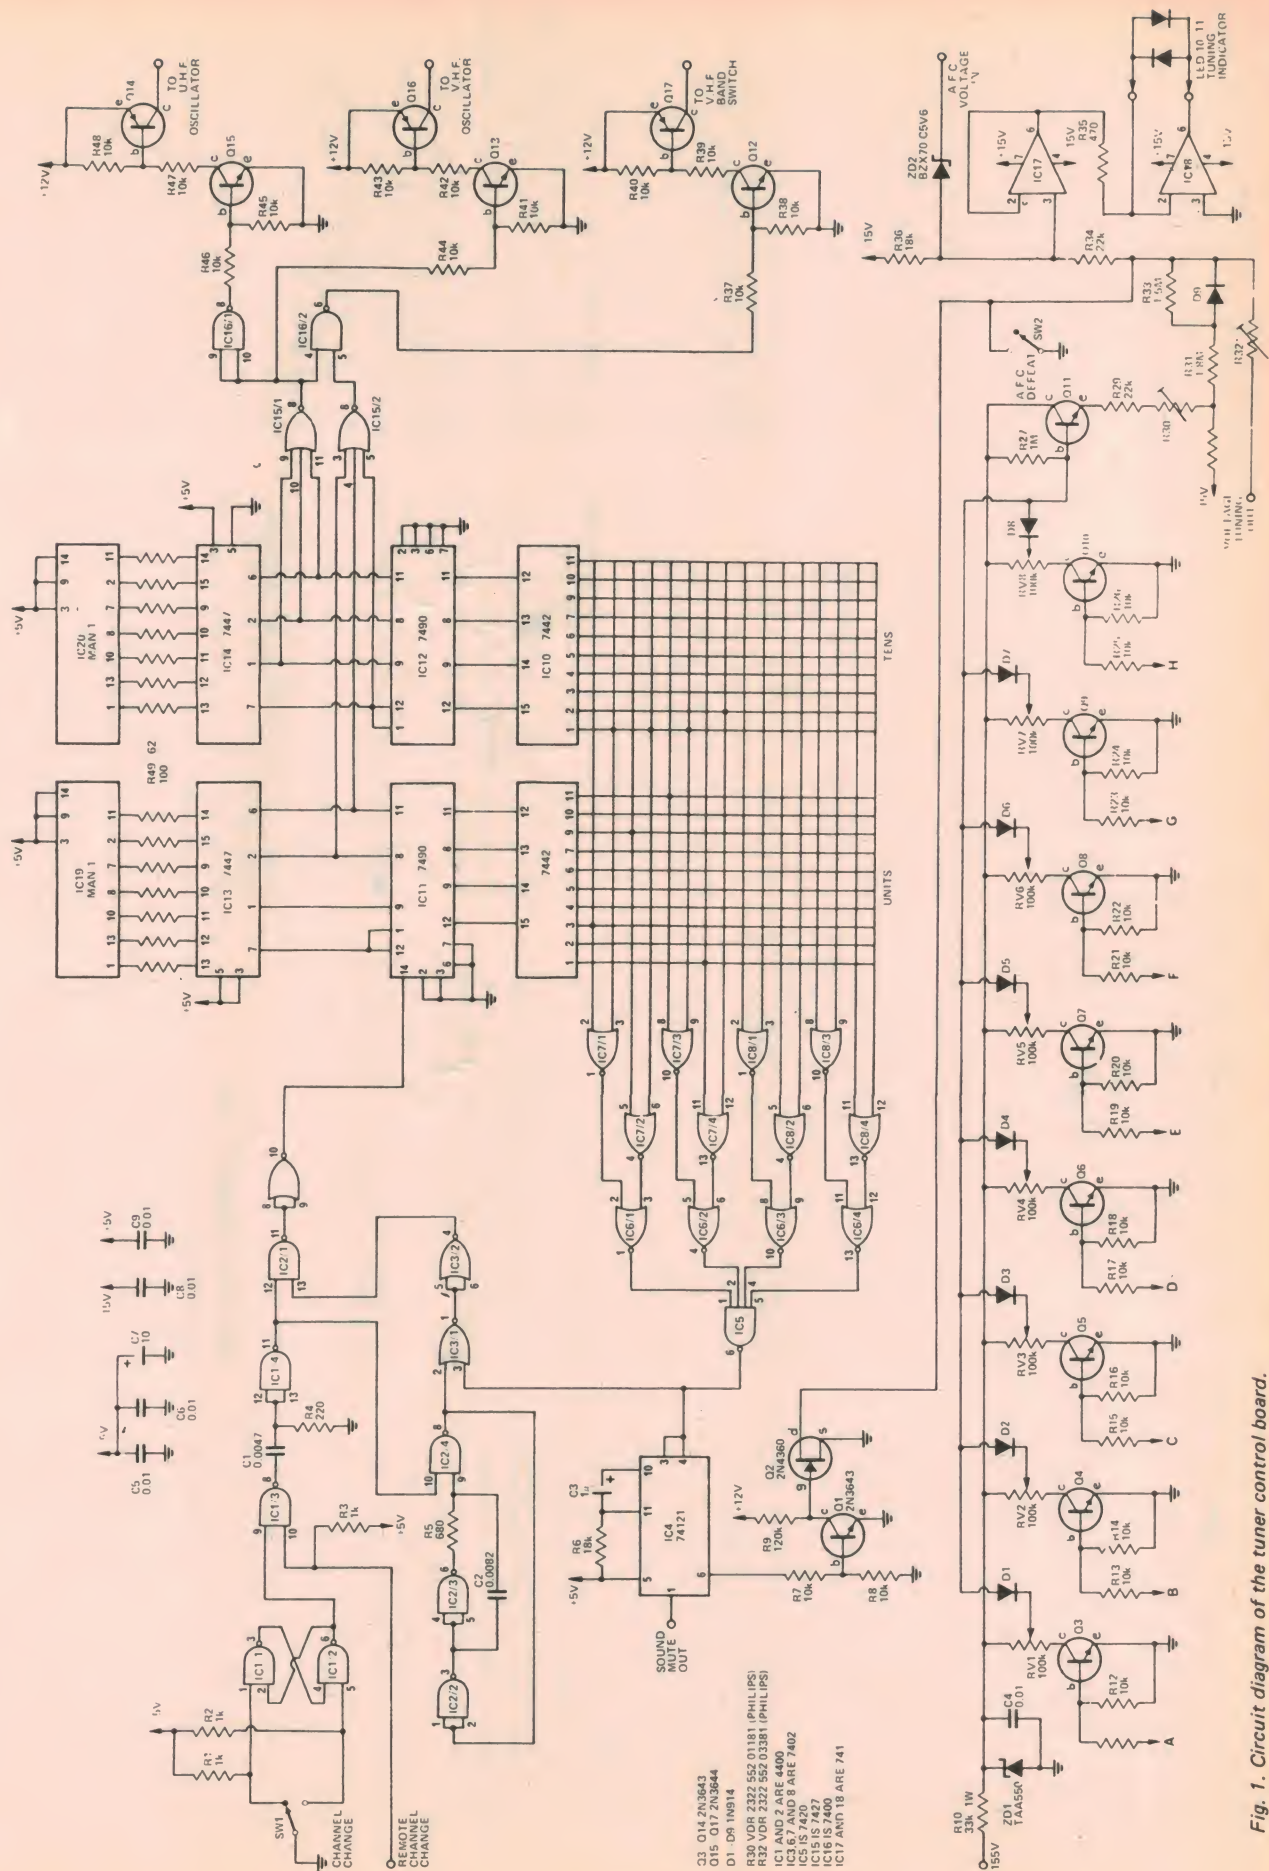

Fig. 1. Circuit diagram of the tuner control board.
**Tuner Control:** The heart of this circuit (Fig. 1) is the two decade channel counter IC11, 12, the output states of which are decoded by IC13, 14 and displayed on the seven segment LED indicators IC19, 20 with leading zero blanking. The system can thus display any vhf/uhf channels numbered from 0 to 99.
The outputs of the channel counter are yet again decoded by the one of ten decoders IC9, 10 to a set of parallel lines on one side of the circuit board. These lines may be patched via lead-throughs to another set of parallel lines on the other side of the board. These constitute the inputs to a set of eight NOR gates IC7, 8, which give an output high only if their two inputs (units and tens), corresponding to a predetermined channel number, are low. The matrix shown in Fig. 1 is wired up to detect channels 2 (IC7/1), 7 (IC7/2), 9 (IC7/3), 10 (IC7/4), and an additional four can be detected.